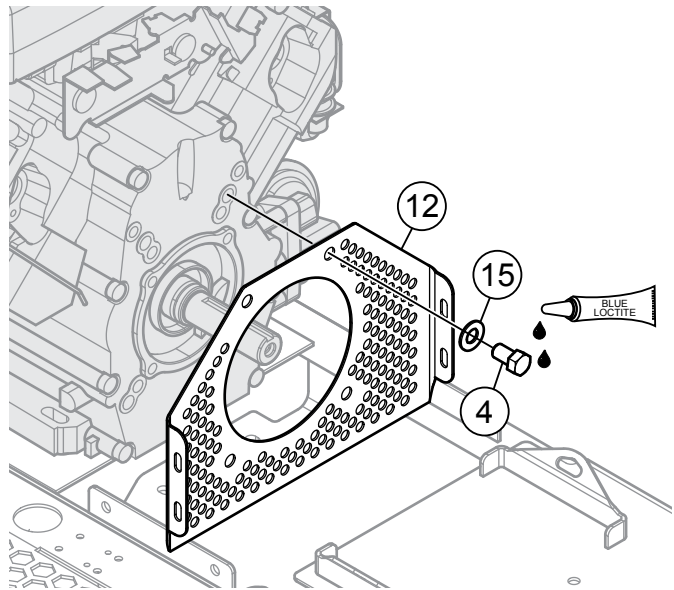

Figure 13. Install Belt Guard Back Panel
1. Install item 12, belt guard back panel, onto engine using screws (item 4) and washers (item 15) in four places. Apply Blue Loctite™ #246. See Figure 13.